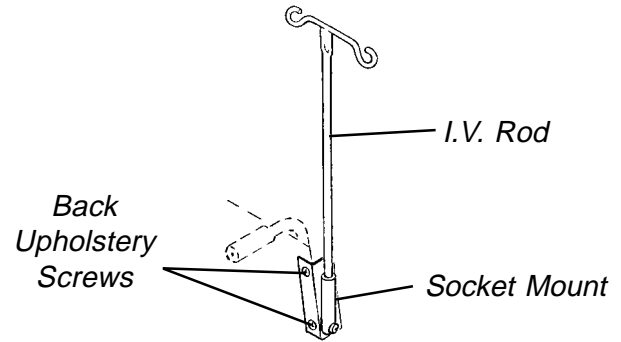
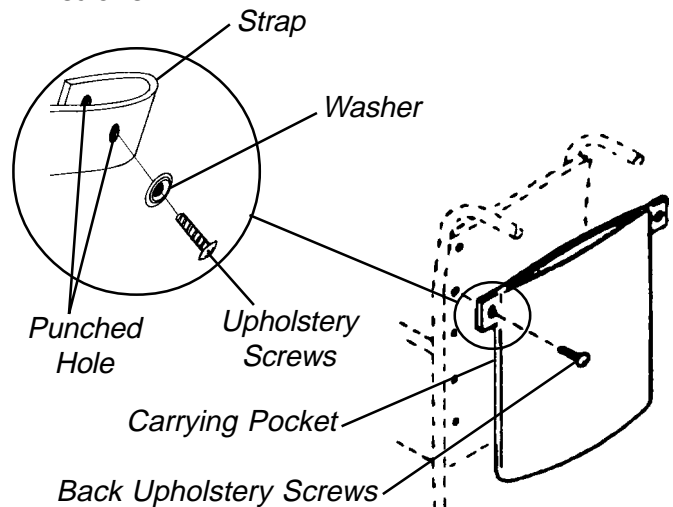

FIGURE 2 - INSTALLING FIXED HEIGHT I.V. ROD
FIGURE 3- INSTALLING THE CARRYING POCKET
2. Position the socket mount on the wheelchair frame as shown in FIGURE 2.
3. Secure the socket mount to the wheelchair frame with the two (2) back upholstery screws.
**INSTALLING FIXED HEIGHT I.V. ROD (FIGURE 2)**
1. Remove the top two (2) back upholstery screws from the side of the wheelchair that the socket mount was designed.
**INSTALLING THE CARRYING POCKET (FIGURE 3)**
2. Remove the two (2) back upholstery screws and two (2) washers that correspond to the desired height.
6. Fold strap ends under so the upholstery screw can be inserted through two (2) thicknesses of strap.
8. Secure the carrying pocket to the wheelchair frame with the two (2) washers two (2) back upholstery screws.